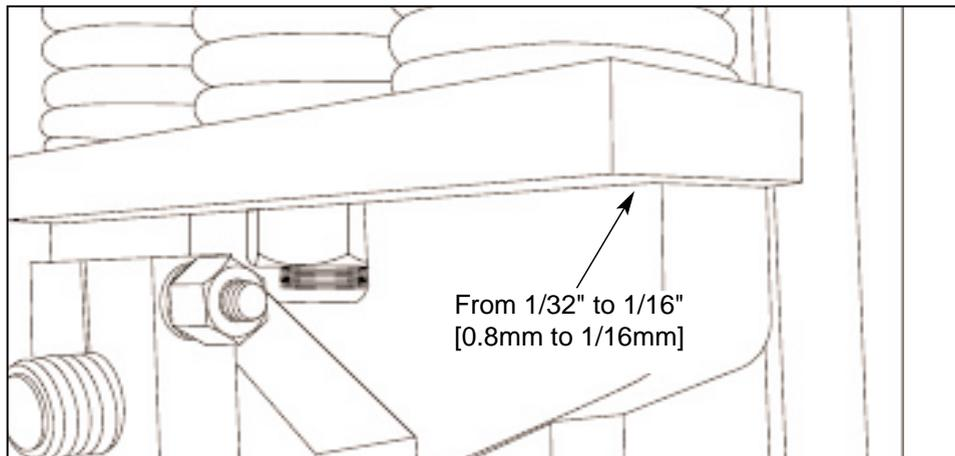

Figure 5.37 SPRING OPENING.
- 5.9.2 The spring opening should be between 1/32" [0.8mm] and 1/16" [1.6mm] maximum (see figure 5.37). This is all that is required to make most units on a DYNAPAC.